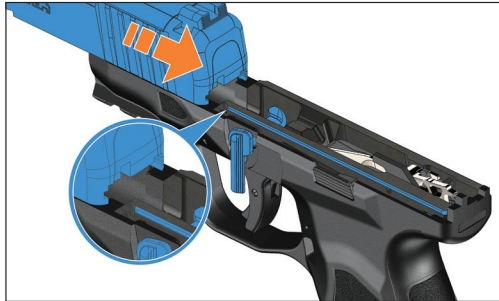

Figure 22 – Mounting the slide on the frame assembly
6. Mount the slide onto the frame assembly, ensuring that the recoil spring is centered underneath the barrel, and that the rails on the frame assembly are inserted into the grooves on the bottom of the slide (see Figure 22).